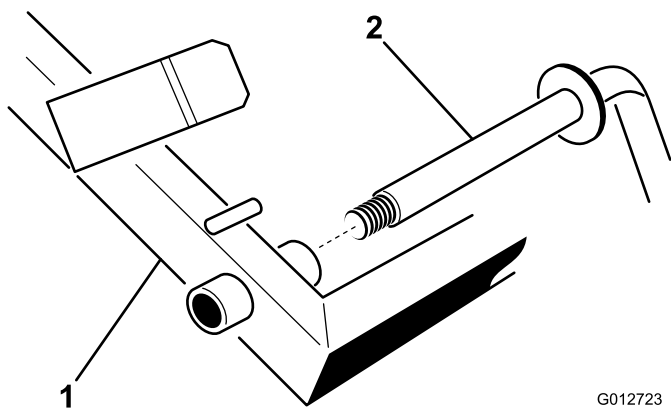

Figure 9
2. Insert the lift bail thru the holes in the lift arm and secure with a thrust washer and locknut (3/4 inch) (Figure 9).